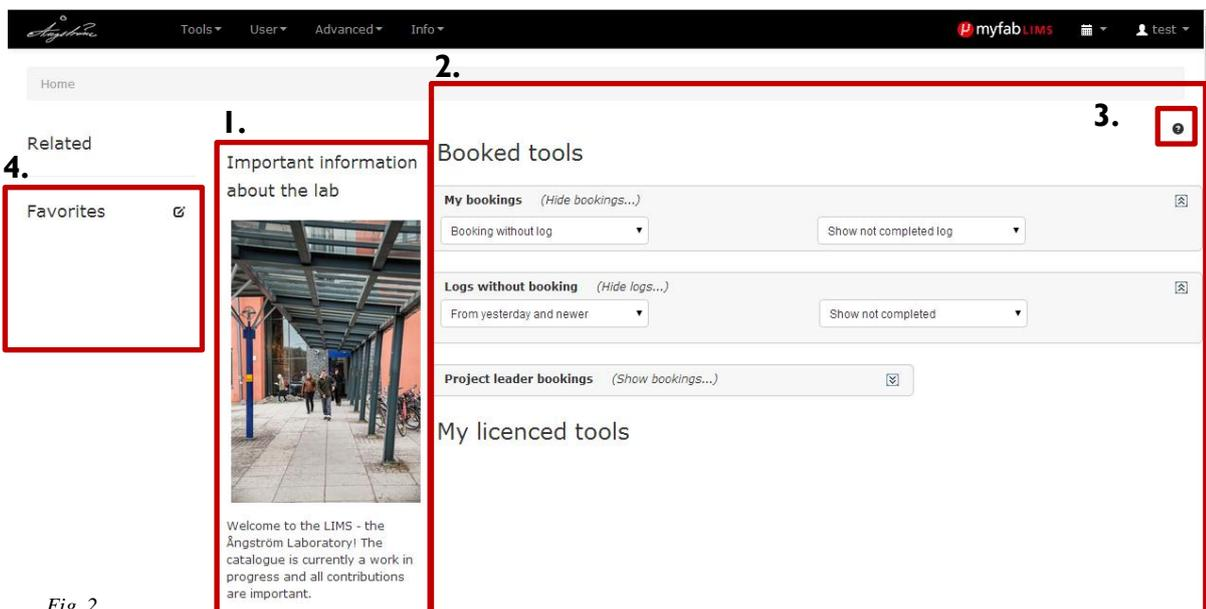

Fig. 2
At first when you log in you see the page shown below in Fig. 2. You'll find a pane in the center (1) where information and updates can be posted. To the right (2) is an interface to the booking system. As stated in the introduction above, this is not yet in use and will not be in the near future. More on this later.